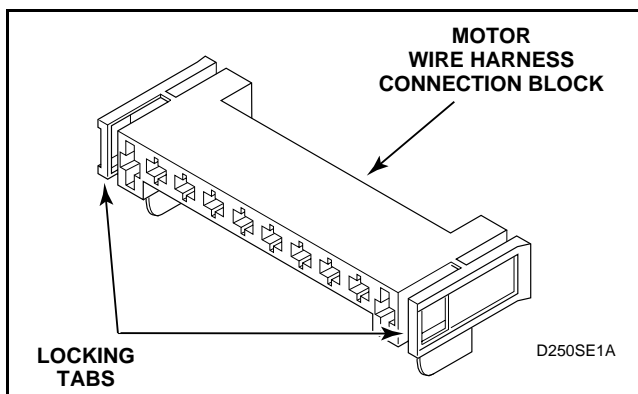

Figure 30
- Disengage motor wire harness terminal block from motor switch by pressing in on the movable locking tabs (located on each end of the terminal block) and pulling away from motor. See *Figure 30*.
- (1.) Disengage motor wire harness terminal block from the motor by pressing in on the movable locking tabs (located on each side of the terminal block) and pulling away from motor. See Figure 30.